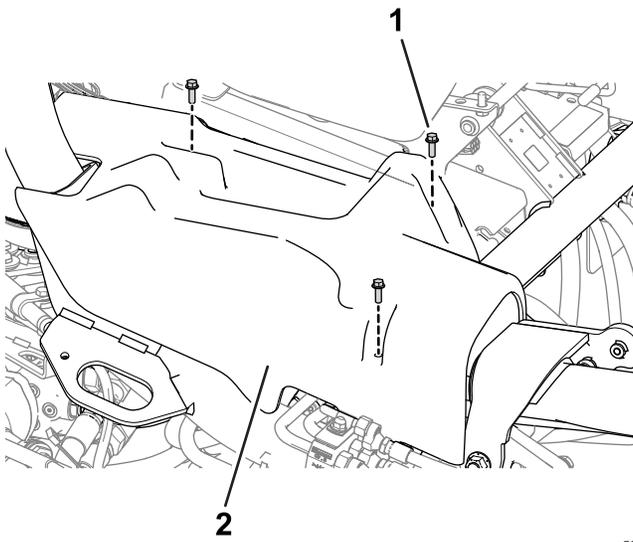

Figure 9
4. Remove the right side cover (Figure 9) from the machine.
- 8. Install the right side cover to the machine (Figure 9).